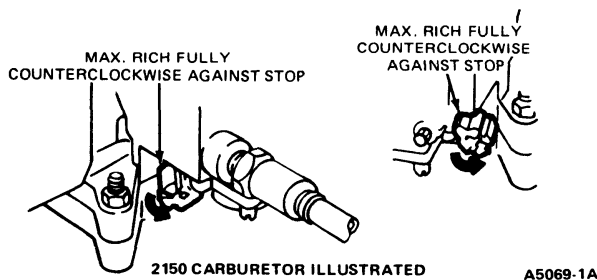

FIG. 16—Positioning New Limiter Caps
17. For all carburetors requiring limiter cap(s), install new blue limiter caps in the maximum rich position. Be sure to use the correct length cap as two types are available (Fig. 16).